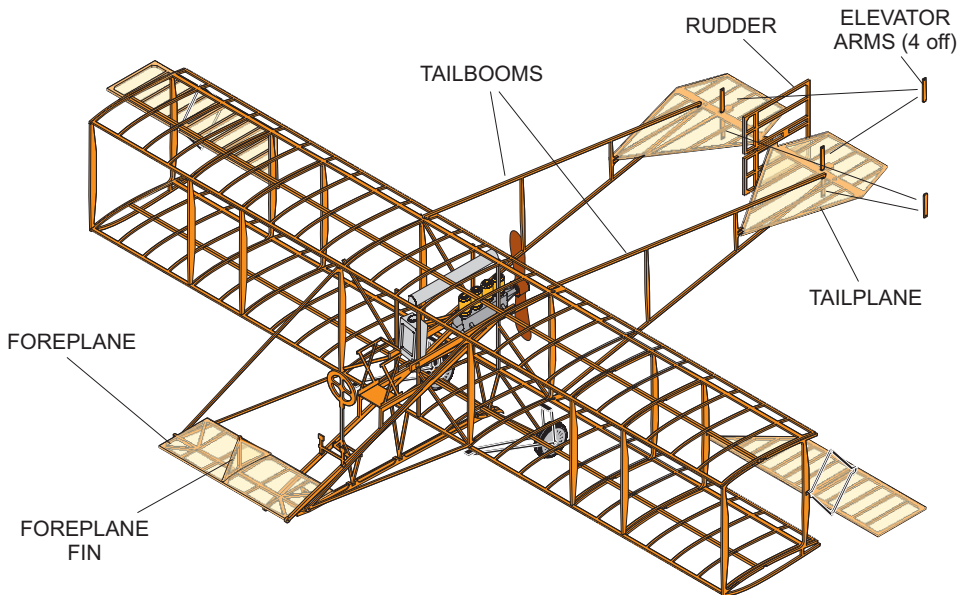

Figure 6
- C Attach the tailbooms to the wings (see figure 6). There is a small peg on each boom at the wing/boom interface and holes in the wing surfaces for these pegs.